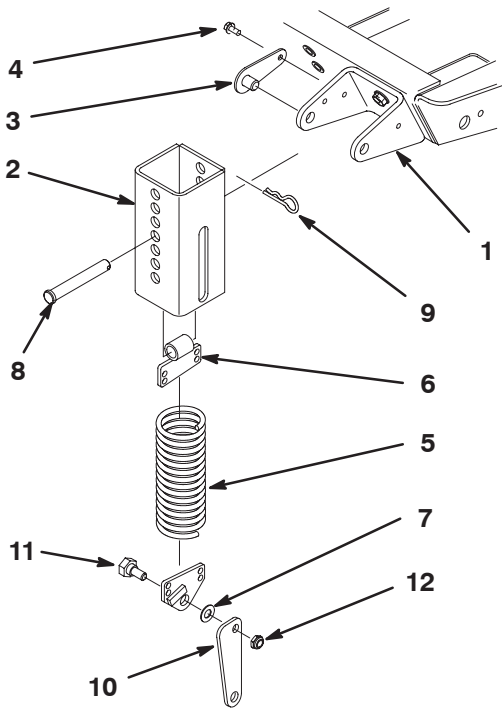
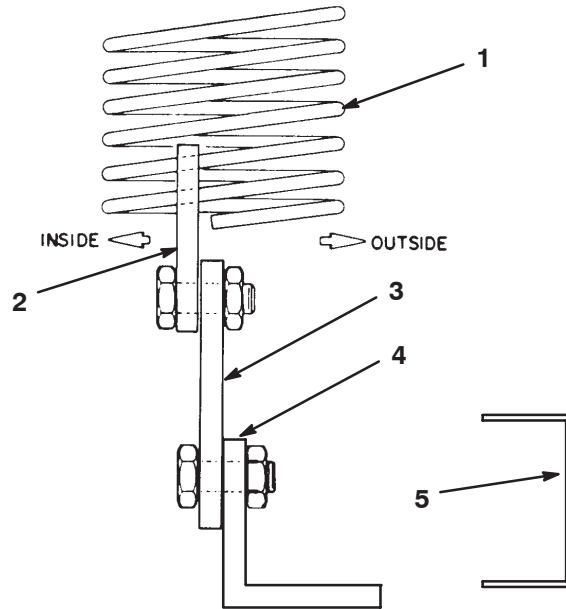

Figure 11
Figure 13
5. Thread the top extension spring coil into the top spring end holes and the bottom extension spring coil into the bottom spring end holes (Fig. 11).
6. Mount the knee link to the lower spring end with the wide part of the knee link pointing forward and the spring end stop pointing forward. Secure the knee link to the outer side of the spring end (Fig. 13) with a shoulder bolt and locknut (Fig. 11 and 12).
8. Align the slotted holes in the spring cover (slot toward the bottom) with the mounting bracket holes. Insert the lock pin assemblies into the bracket holes and secure each to the bracket with self-tapping screws (Fig. 11). Torque the screws to 20 ft.-lb. (27 N-m).
the selected spring cover holes and insert the clevis pin to secure the spring inside the cover (Fig. 11). Secure the clevis pin with a hairpin cotter.